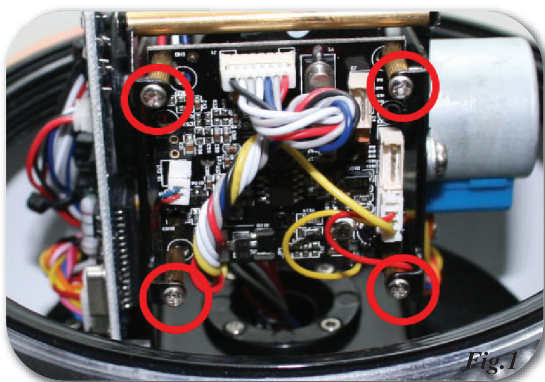
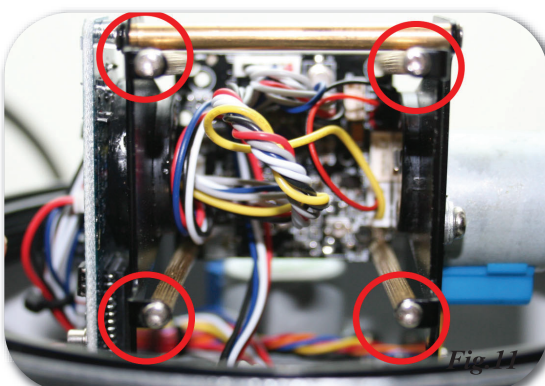

Fig.1
Fig.11
Step 1: Please open the glass dome (right-hand thread) and remove the 4 screws holding the spacers of the CMOS board. (Fig.1) The screws are to be used again in step 11.
Step 11: Now use the 4 screws from step 1 to fasten the camera head back into the casing (see also Fig.1). (Fig.11)